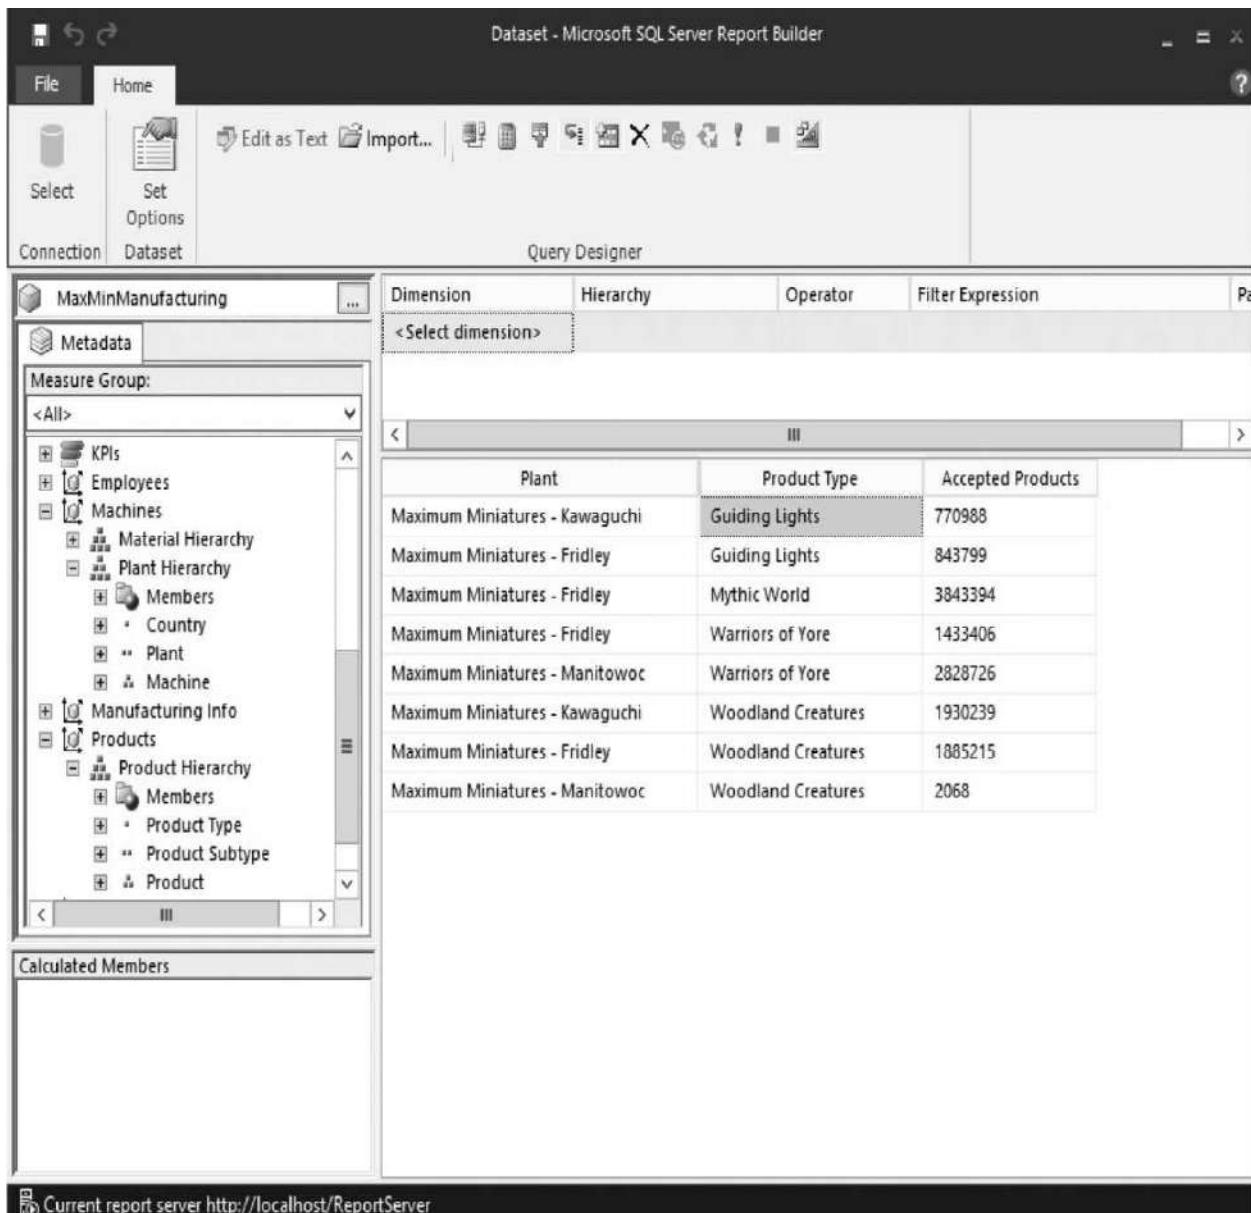

Figure 17-15 The PlantLookup dataset query
38. Expand the Machines table and the Plant Hierarchy, and then drag the Plant member of this hierarchy onto the query area. This dataset will populate a lookup list of the valid plants. The query dialog box appears, as shown in Figure 17-15.